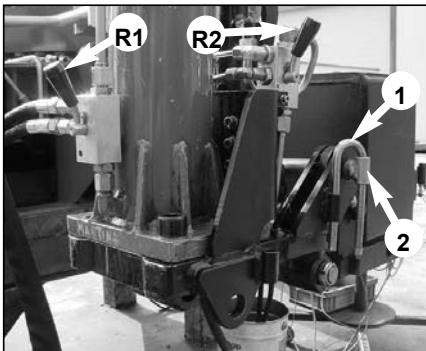
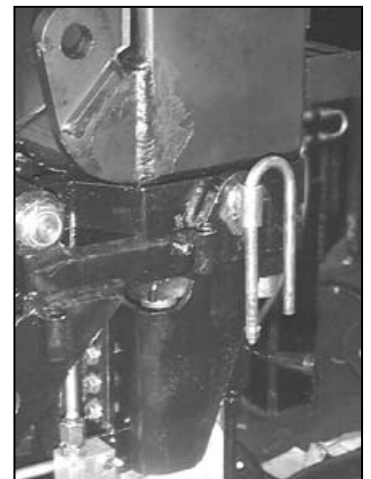

fig. 12
fig. 14
- **rotation of the outrigger ram n°1 from the rest position (fig. 12) to the working condition (fig. 14)**